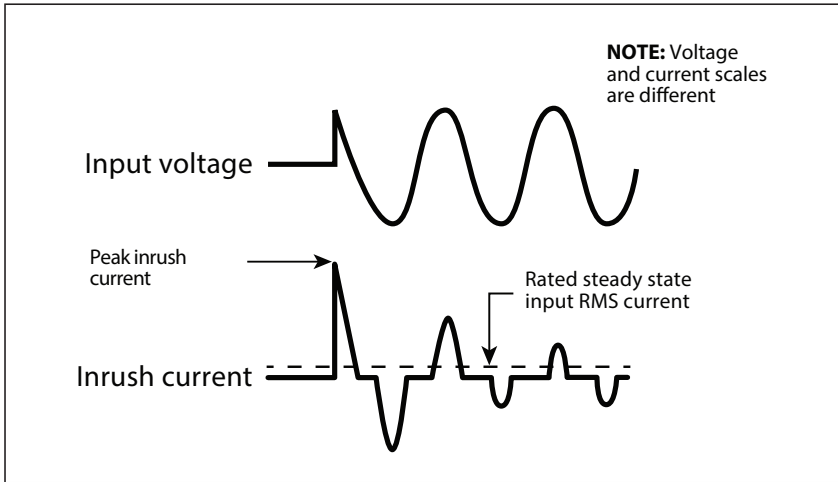

Fig 4.1: Inrush current in an SMPS.
- **AC to DC Switched Mode Power Supplies (SMPS):** This type of power supply is used as stand-alone power supply or as front end in all electronic devices powered from Utility / Grid e.g. in audio / video / computing devices and battery chargers (Please see Section 4 for more details on SMPS). When this power supply is switched ON, its internal input side capacitors start charging resulting in very high surge of Inrush Current for a few milliseconds (Please see fig 4.1). This surge of inrush current / power may reach up to 15 times the Continuous Maximum Running Power Rating. The surge of inrush current / power will, however, be limited by the Surge Power Rating of the AC source.
**Power Factor, (PF):** It is denoted by “PF” and is equal to the ratio of the Active Power (P) in Watts to the Apparent Power (S) in VA. The maximum value is 1 for resistive types of loads where the Active Power (P) in Watts = the Apparent Power (S) in VA. It is 0 for purely inductive or purely capacitive loads. Practically, the loads will be a combination of resistive, inductive and capacitive elements and hence, its value
Switch Mode Power Supplies (SMPS) are extensively used to convert the incoming AC power into various voltages like 3.3V, 5V, 12V, 24V etc. that are used to power various devices and circuits used in electronic equipment like battery chargers, computers, audio and video devices, radios etc. SMPS use large capacitors in their input section for filtration. When the power supply is first turned on, there is a very large inrush current drawn by the power supply as the input capacitors are charged (the capacitors act almost like a short circuit at the instant the power is turned on). The inrush current at turn-on is several to tens of times larger than the rated RMS input current and lasts for a few milliseconds. An example of the input voltage versus input current waveforms is given in Fig. 4.1. It will be seen that the initial input current pulse just after turn-on is > 15 times larger than the steady state RMS current. The inrush dissipates in around 2 or 3 cycles i.e. in around 40 to 60 milliseconds for 50 Hz sine wave.